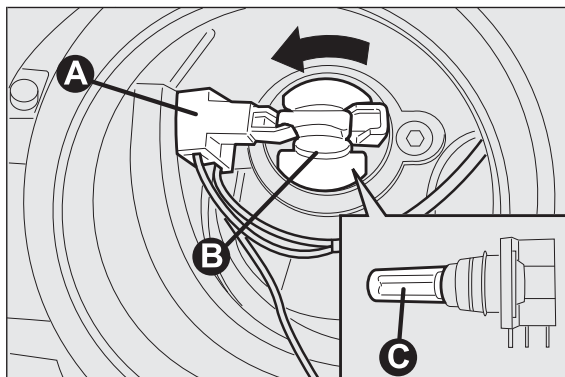

fig. 192
- ☐ disconnect the electrical connector A fig. 192;
- ☐ rotate bulb holder B fig. 192 anticlockwise and remove the unit;